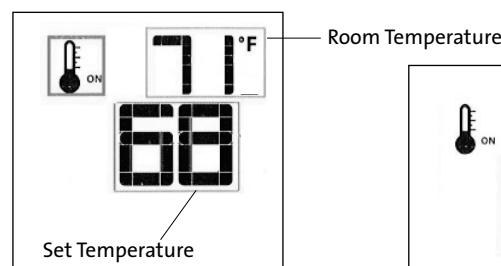

Figure 70. Thermostat ON.
- To activate this function, press the Thermostat Key. The display will indicate that the room thermostat is “ON” and the current Set Temperature is now displayed. Fig. 70.